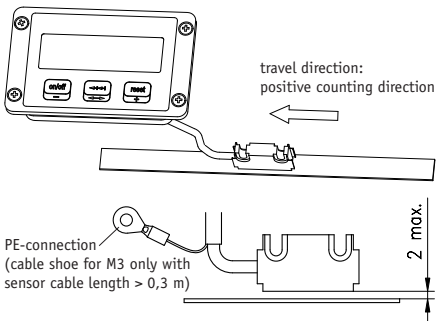

Fig. 3: Mounting tolerances of external sensor
- With sensor cable lengths > 0,3m the display's housing and the PE-connection near the sensor (see fig. 3) must be properly earthed!